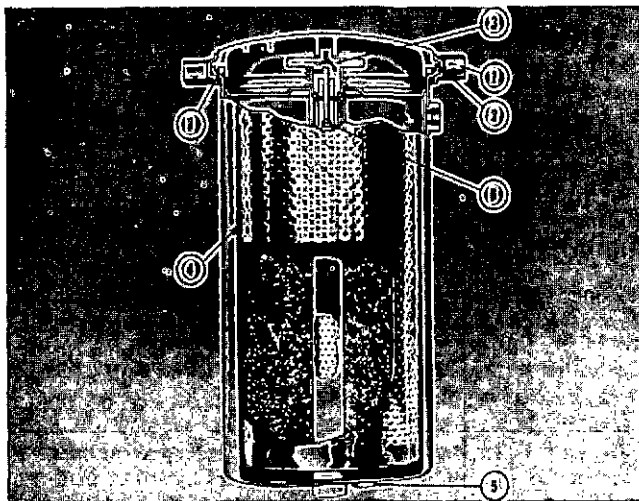

Fig. 5-6, V41908. By-pass filter cross section
1. Remove drain plug (5, Fig. 5-6) from bottom of housing and drain oil.
2. Remove clamping ring capscrew (1) and lift off cover.
3. Unscrew upper support hold-down assembly (3); lift out element (4) and hold-down assembly. Discard element.
4. Clean housing and hold-down assembly in solvent; clean orifice (6) in standpipe.